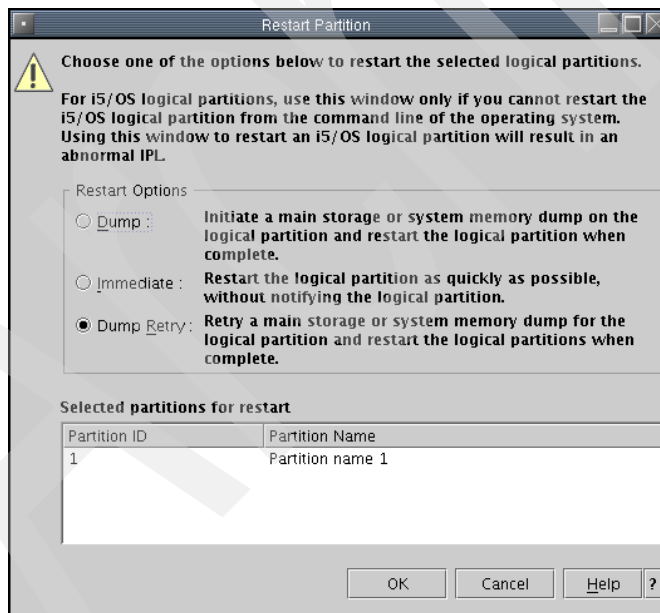

Figure 6-20 Partition restart options
2. Select **Restart Partition**. A dialog like the one in Figure 6-20 on page 193 is shown.
4. Select the restart type and press **OK** to start. See Figure 6-20.